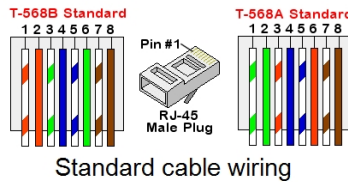

Figure 19: Standard cable wiring
- c. Insert the eight wires into an RJ45 connector, as described in *Figure 19*.
7. For the switch/router side, use a pre-crimped cable or use a crimper to prepare an RJ45 communication connector: Insert the eight wires into the RJ45 connector in the same order as above (*Figure 19*).